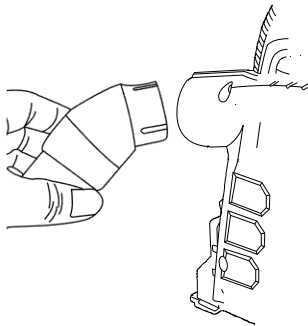

Fig. 4
2. Insert the dust adaptor to dust port until it fastens.(Fig. 4)